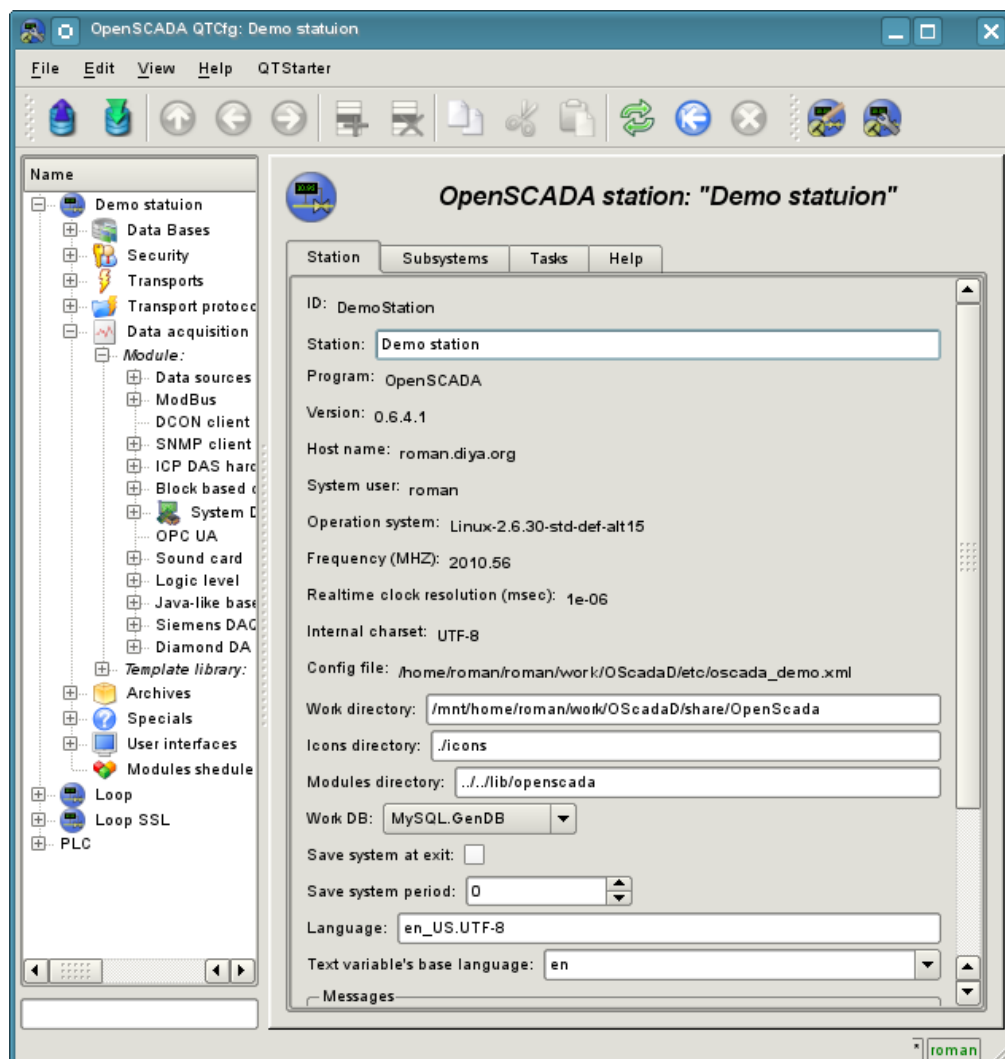

Fig. 4a. "Station" tab of the main page of the configuration of the station.
- Tab "Station" contains basic information and configuration field of the station, Fig.4a. Here are the provided fields and comments on them:
- *System user* - contains the information about the user on whose behalf the program is executed in the system (OS).